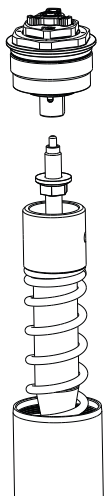
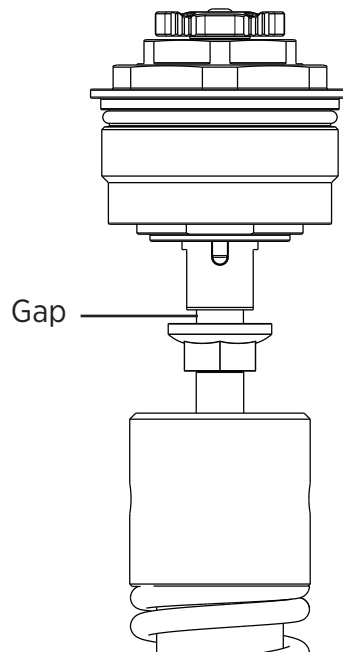

Fig. 16: Thread the top cap assembly onto the shaft.
Fig. 17: Confirm there is a gap between the top cap and the cinch nut.
13. Thread the top cap assembly onto the shaft (Fig. 16). Make sure the preload adjuster is at the minimum setting. Ensure that the top cap assembly sits flush on the shaft; there should be a gap between the top cap assembly and the cinch nut (Fig. 17).